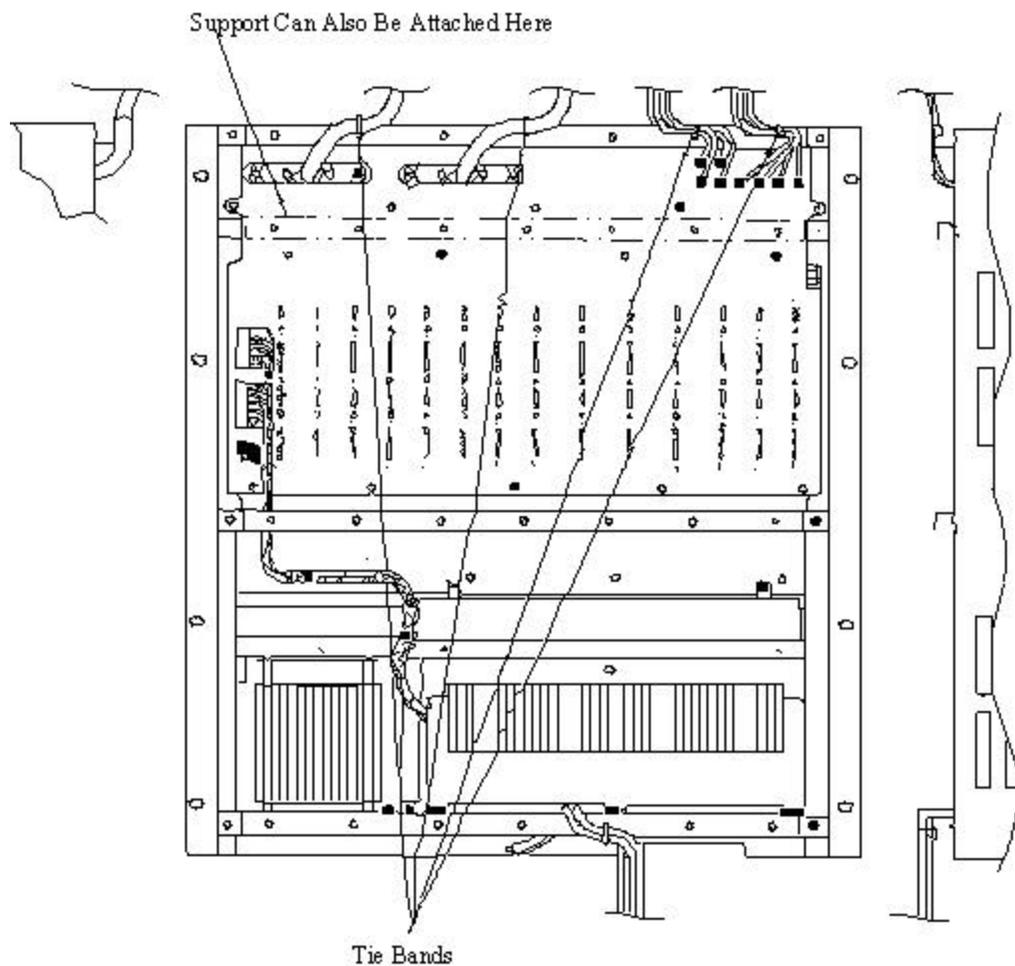

Figure 2-18: Cabling Example
10. When the RP and E1 cables are connected, attach the cabling to the supports with tie bands. Refer to Figure 2-18.